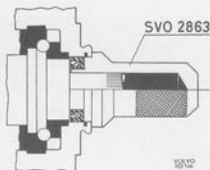

Fig. 6-72. Installing sealing ring
5. Fill the space between the new sealing ring lips with multipurpose grease. Fit the sealing ring on to installation tool 2863 with the help of the loose guide. Remove the guide and fit the sealing ring in the steering housing, see Fig. 6-72.